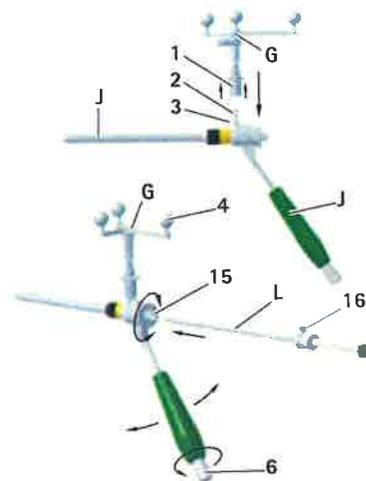

Fig. 11 Mounting the Aesculap star unit onto the S4C guide sleeve; inserting the S4C drill guide
- To ensure the camera has an unrestricted view of the reflective marker spheres, unscrew knob 6 on the S4C handle of the navigated S4C guide sleeve J and turn the Aesculap star unit G to the desired position, see Fig. 11.
- Push inner sleeve guide L onto the inner sleeve 15. The inner sleeve engages on the inner sleeve and can still be rotated, see Fig. 11.